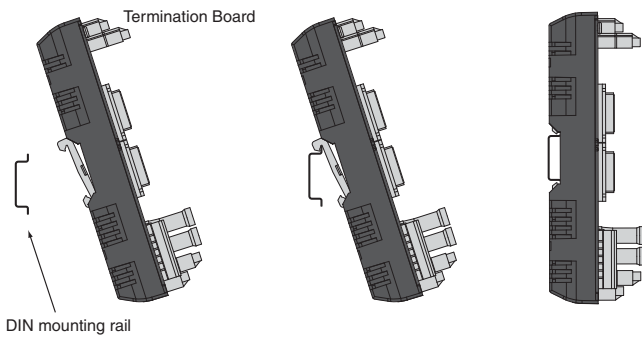

Figure 5 Proper mounting of the H-System Termination Board
- Place the Termination Board onto the DIN rail (Figure 5).